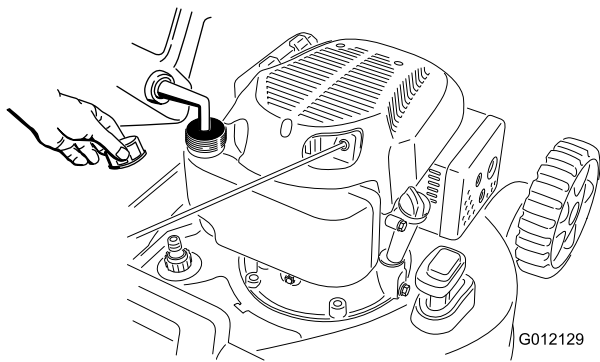

Figure 8
- Clean around the fuel-tank cap, and remove the cap from the tank (Figure 8).